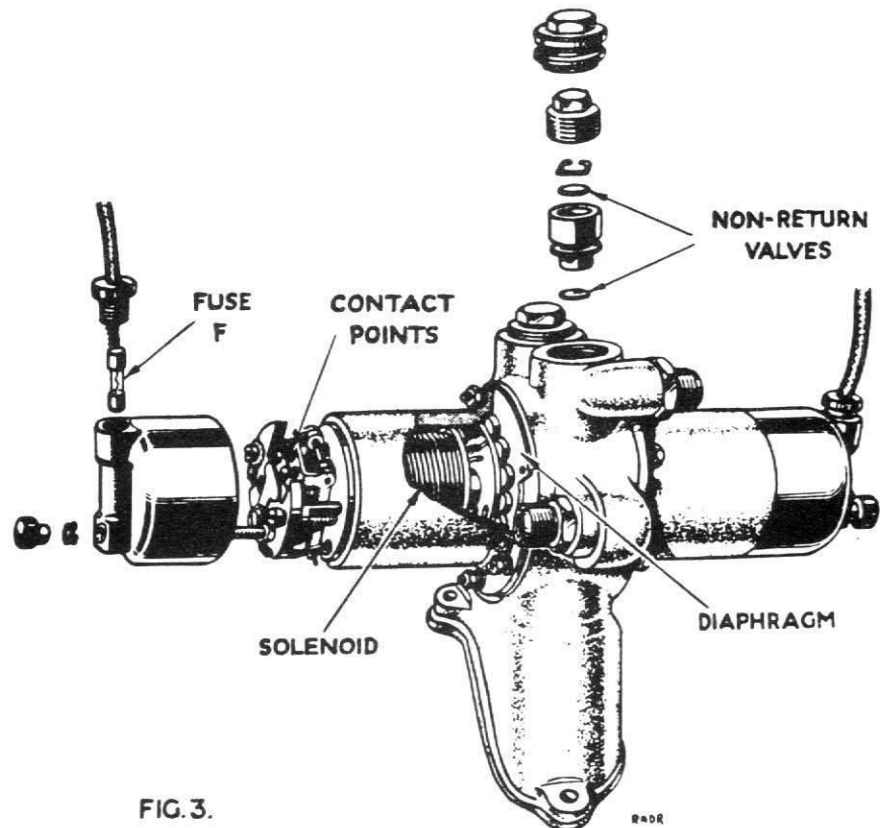

FIG. 3.
- (f) Switch on ignition and the petrol pumps should start to purr. If they do not, make sure current is getting to pumps by checking with 12 volt bulb connected between the brass bush inside the pump end covers (removed) and earth. The bulb should light; if not, examine small fuse F. in each cover (Fig.3).